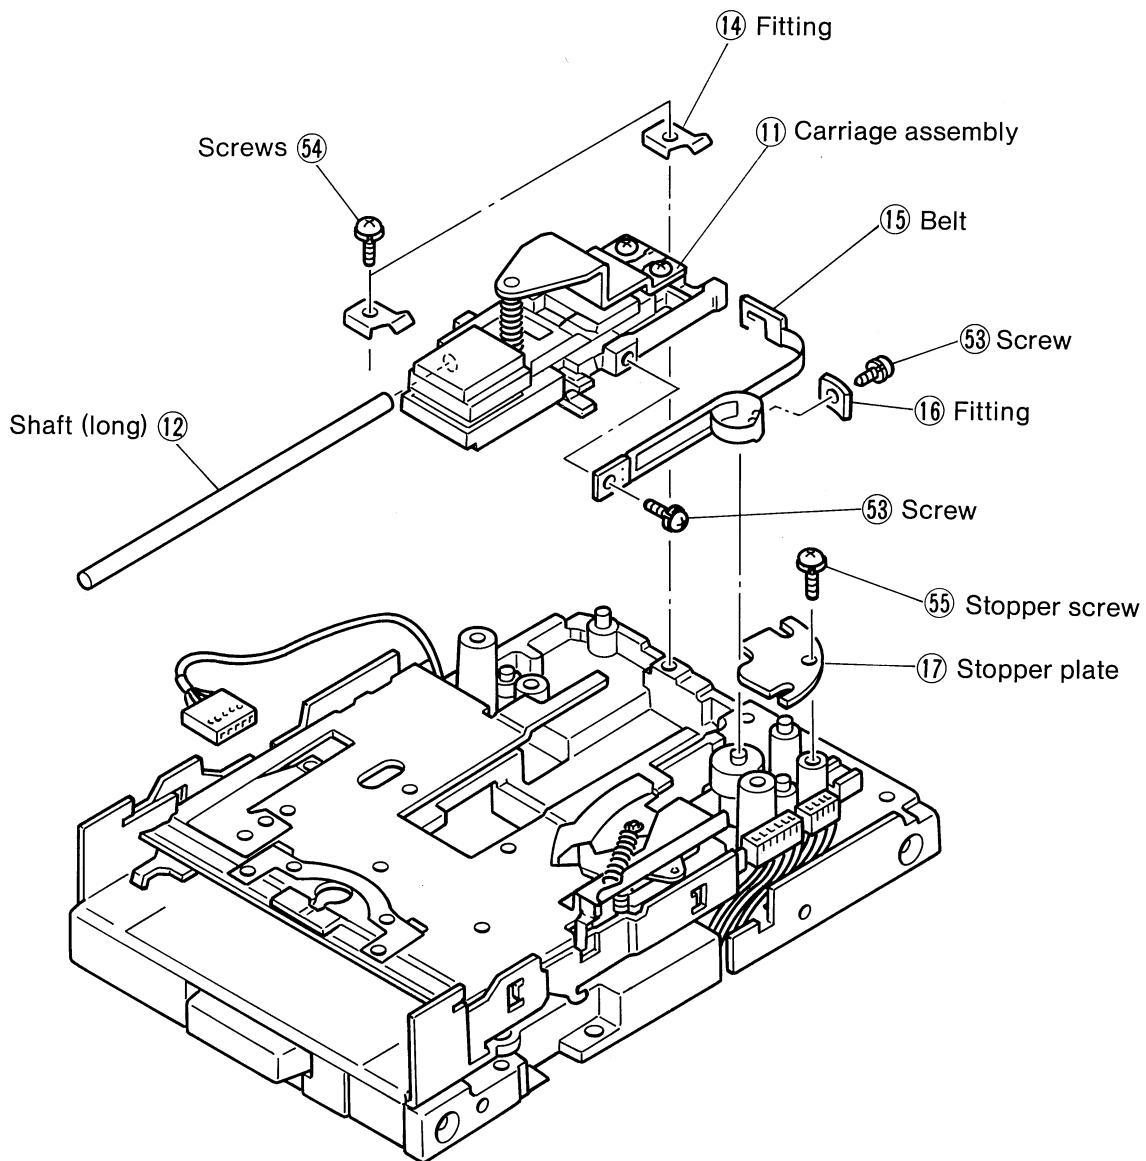

Figure 3-4. Carriage Assembly
- (3) Remove the two screws labeled ⑤④, then remove the guide plate B assembly ②② together with the M carriage ②①.
- (4) Remove the damper assembly ②① and E lever ①⑨.
- (5) Before removing the guide plate A ①⑩ from the frame, remove the M carriage assembly ②① (see Figure 3-4).
- (6) When **reassembling**, insert the E lever into the axis guide on the frame.
- (7) Set the E lever with the lever pushed in 5mm from the front panel.
- (8) Set the damper assembly into the E lever after pulling out the damper assembly so that its extended length is 20mm.